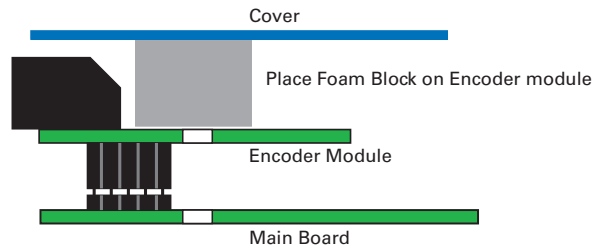
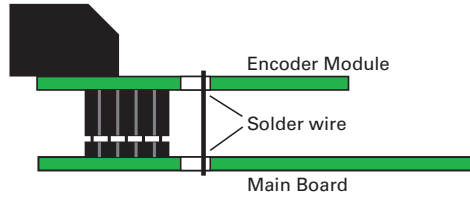

FIGURE 81. Place foam block between module and cover to hold in place
FIGURE 82. Solder wire for more robust assembly
- 3- The encoder module will be held in place by the connectors and the new front bracket's opening around the RJ11 connector. For added stability, place the foam pad on top of the Encoder module as shown in Figure 81 so that it is held in place by the sliding cover. For use in harsh shock and vibration environment, you may instead solder a metal wire inside the 0.1" hole found on the main board (next to one of the two header) and solder the other end inside the matching hole on the encoder module, as shown on Figure 82.